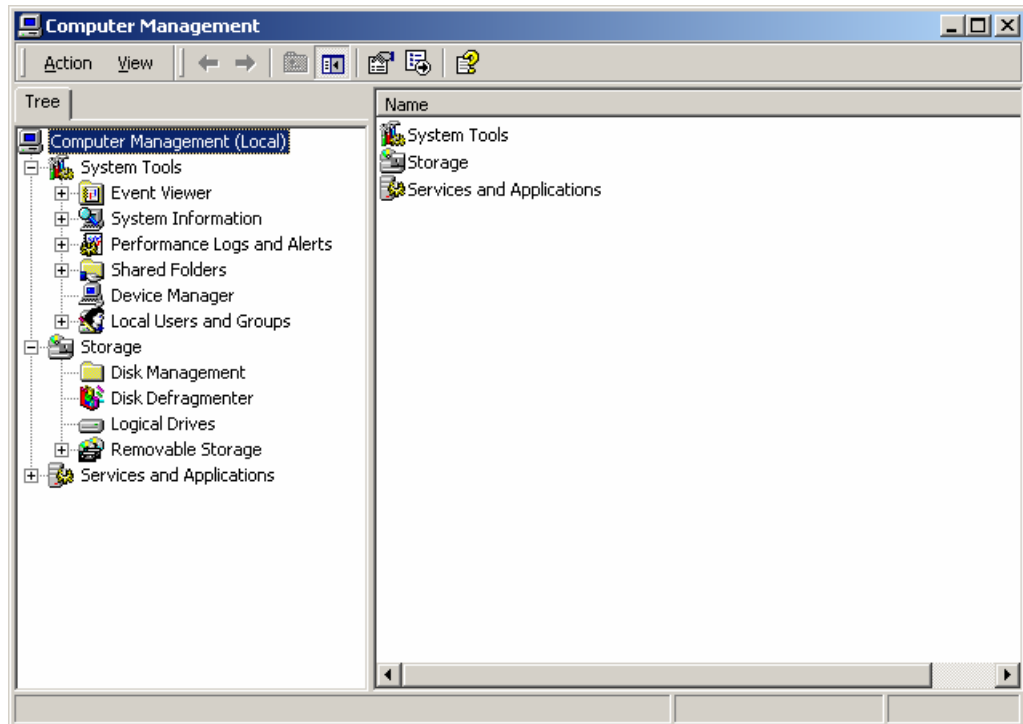

Figure 2-34 [Computer Management] window
- 1) At the Windows 2000 Server desktop, select [Start/Programs/Administrative Tools/Computer Management]. The [Computer Management] window is displayed, as shown in Figure 2-34.
- 2) As shown in Figure 2-34, select [Storage/Disk Management] in the tree pane. The partitions of the server are displayed in the right pane.